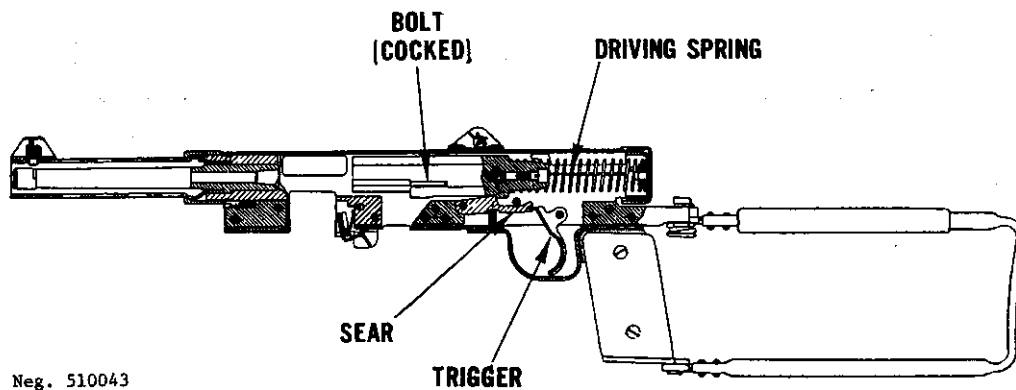

Figure 44. M45b section.
b. The firing cycle starts with the bolt cocked to the rear, caught by the sear, compressing the driving spring (fig 44). Pressure on the trigger causes it to rotate, and a forward lug on the trigger bears against the rear of the sear to force the sear down to release the bolt. The driving spring forces the bolt forward. As it moves, the feed rib drives a cartridge out of the magazine and into the barrel chamber. As the cartridge seats in the barrel, the fixed firing pin strikes the primer and fires the cartridge.